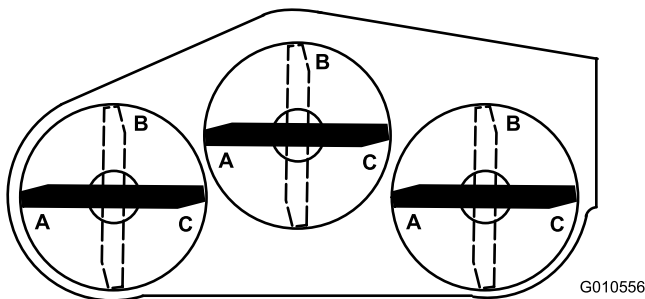
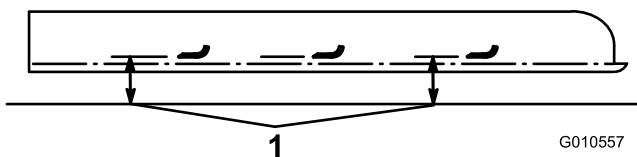

Figure 24
Figure 25
1. Remove the locknut from the bolt holding the castor wheel assembly between the castor fork (Fig. 24). Grasp the castor wheel and slide the bolt out of the fork.
5. Position all 3 blades in the A position (Figure 24) and measure from the level surface to the bottom of the tip end of each blade (Figure 25).
6. Note the measurement attained at A, rotate the blades to the B position (Figure 24), measure the distance of all of the blades to the level surface, and note the dimensions (Figure 25).
7. Rotate the blades to the C position, measure, and note the distance measured (Figure 24 and Figure 25).